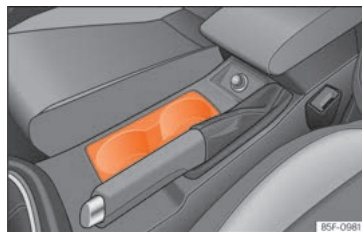

Fig. 167 Centre console: drinks holder.
- Place drinks in the holder »» **Fig. 167**. Placement of two drinks is possible. There is also the possibility of placing larger plastic bottles in the trims of the doors.